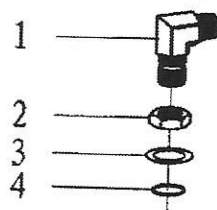

Fig. 17
14. Bend sub (9/16-18UNF) (Fig 17, Table 14)